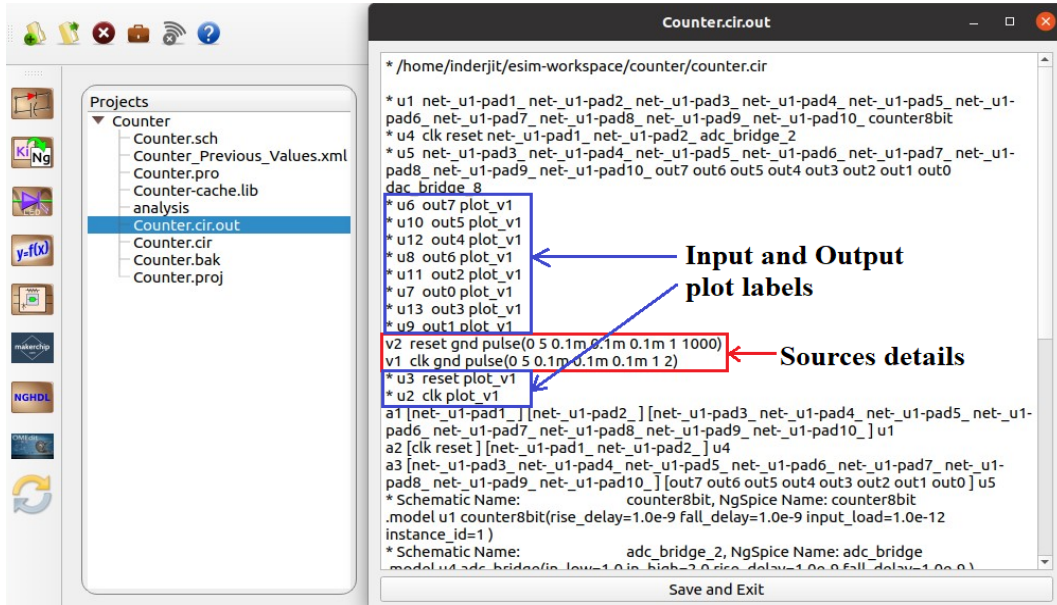
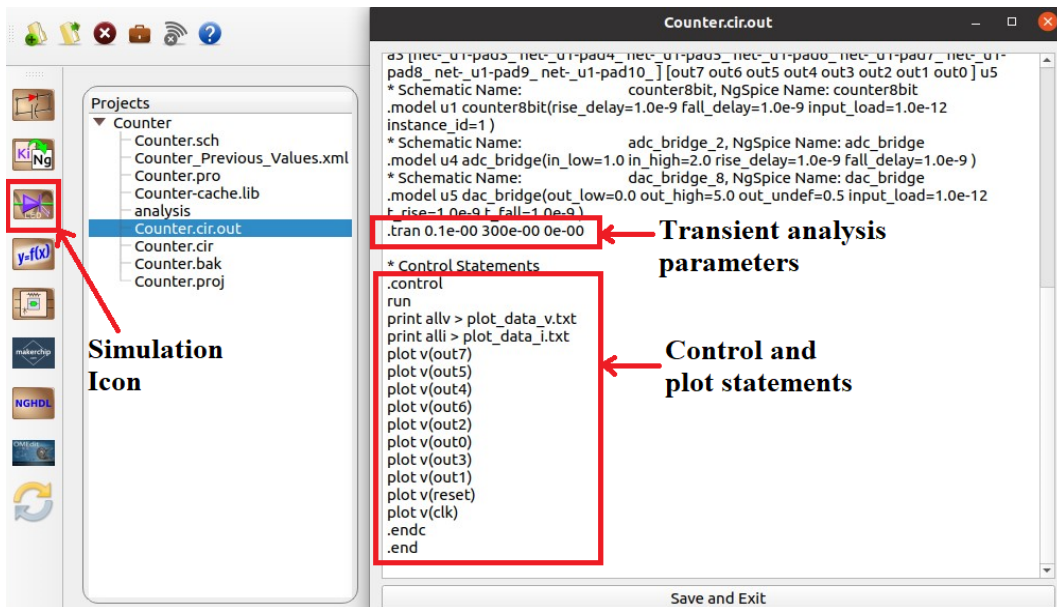
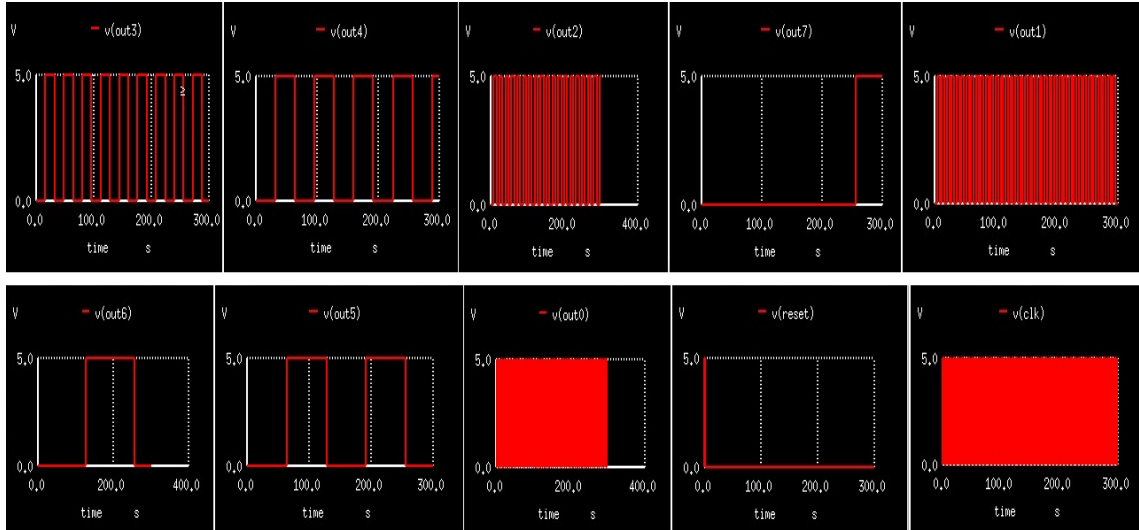

Figure 11.37: Cir.out file details Part 1
Figure 11.38: Cir.out file details Part 2
Figure 11.39: Input and Output simulation plots of 8 bit Counter
- Next, right click on **Counter.cir.out** file and open it as shown in Fig. 11.37. This file consists of Ngspice netlist of 8 bit counter including information of source, input and output plot labels, transient analysis parameters and control and plot
statements. Refer Fig. 11.37 and Fig. 11.38
- To run simulation click on **Simulation** icon as shown in Fig. 11.38. It will display input and output plots for 8 bit counter as shown in Fig. 11.39. You can see the plots of input clock, input reset and outputs out0 to out7. However, these plots are not in order.